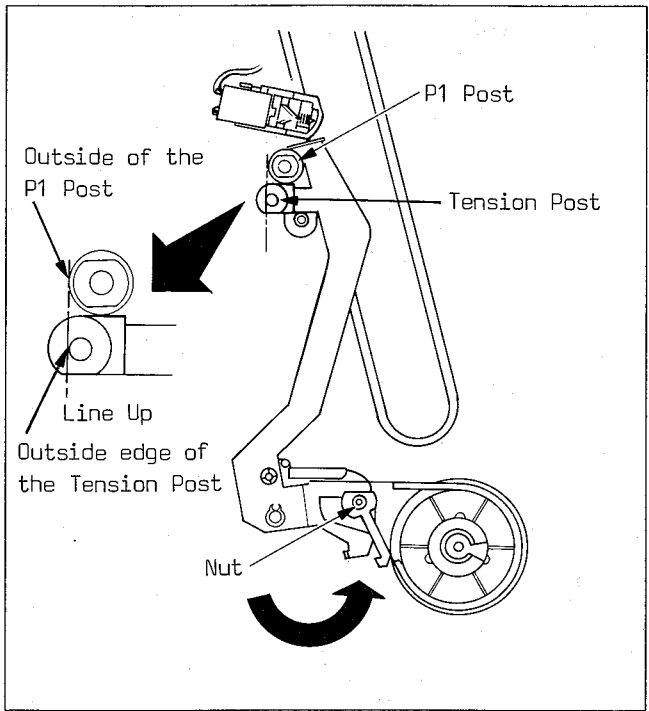

Fig. M2
6. Insert the Hex. Wrench (2mm) into the nut on the Tension Band Fastener and adjust it (only counterclockwise) as indicated by the arrow so that the outside edge of the Tension Post lines up with the outside of the P1 Post as shown in Fig. M2 (as viewed looking down the edge of the Cassette Side Plate (L) Unit).